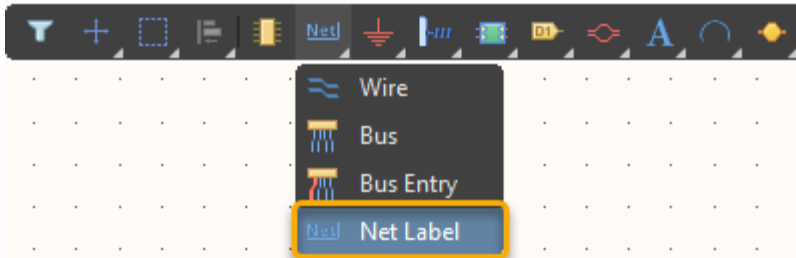

Figure 1. Place Net Label
6. From the *Active Bar* select **Net Label** as shown in Figure 1, hit the **Tab** key to access the *Properties* panel whilst the net label is attached to the cursor, and change the name to `D1_N`. Press **Escape** or select the Pause  to place the net label on connection between `U1-Pin1` and `L1-Pin2`.